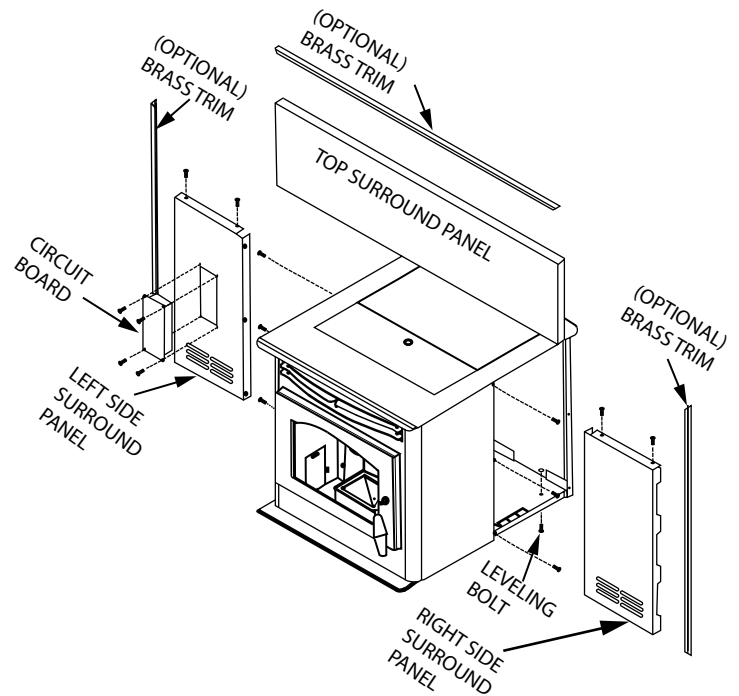

FIGURE 15
Follow the instructions packaged with the 5040 Flashing set part C-5040-MED (refer to Figure 15).
4. Attach flashing (refer to Figure 15), route power cord out the side nearest a 120V receptacle. Slide in insert.
6. Attach flashing (refer to Figure 15), route power cord out the side nearest a 120V receptacle. Slide in insert.